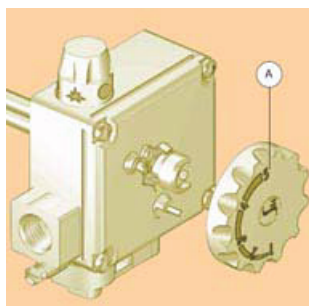
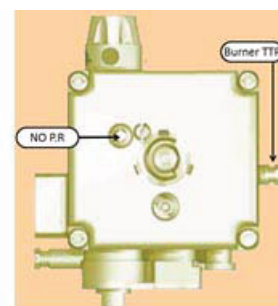

Figure 6. Adjustment for LPG
Figure 7. Adjusting the "NO P.R." Screw
1. Bypass the SIT Gas Control Integrated Pressure Regulator by removing knob A (refer to Figure 6) and adjusting the "NO P.R." screw clockwise, the screw will click once the integrated pressure regulator is bypassed (see Figure 7).
2. Connect a manometer to the Burner TPP position on the SIT Gas Control (see Figure 7).